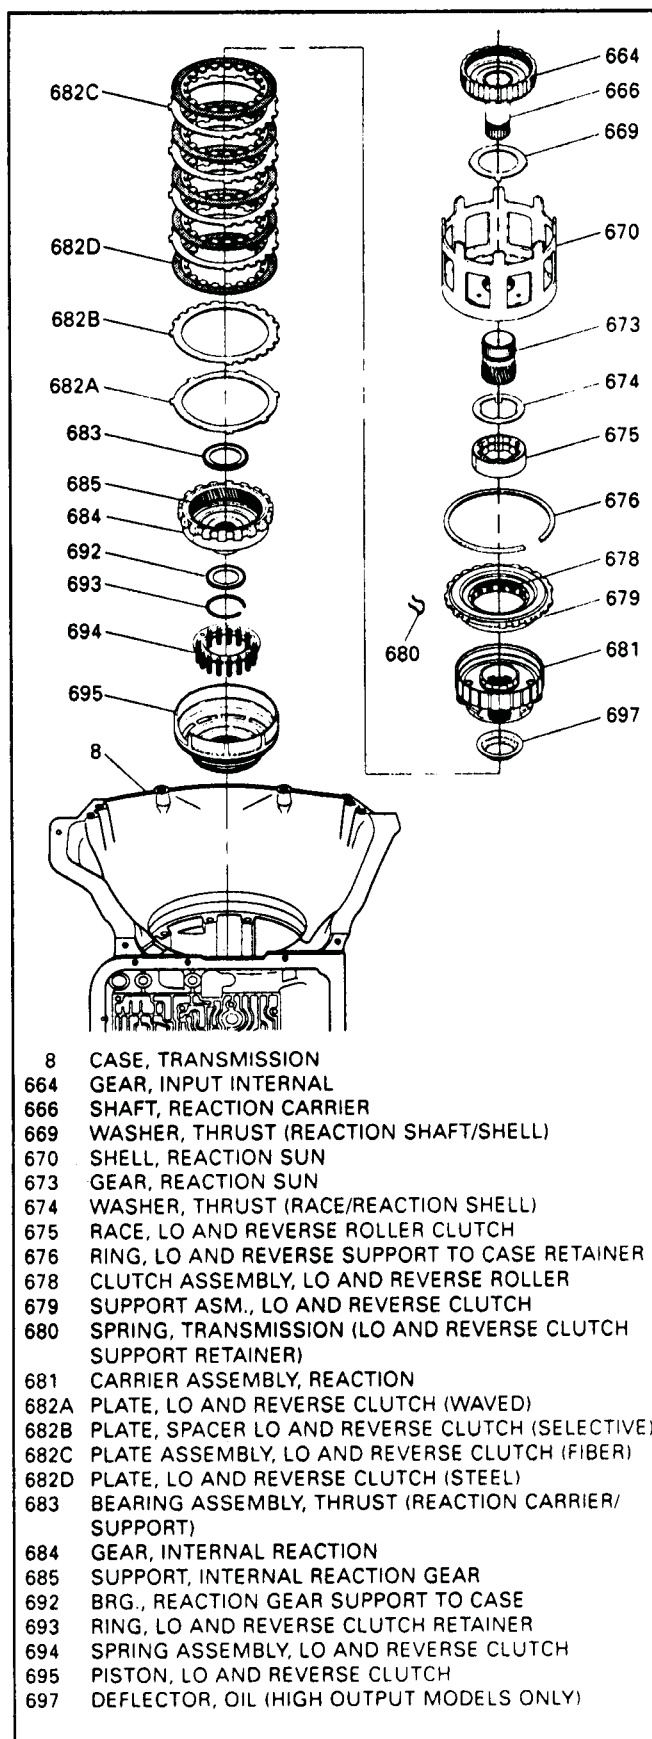

Figure 53
58. Remove input ring gear and the thrust washer as shown in Figure 53.
59. Remove the reaction sun shell and the reaction sun gear (See Figure 53).
60. Remove thrust washer from the top of low roller clutch inner race as shown in Figure 53.
61. Remove snap ring from case that is retaining the low roller clutch support as shown in Figure 53.
63. Remove the anti-clunk spring from the case (See Figure 53).
64. Remove the low/reverse clutch plates from the case (See Figure 53).